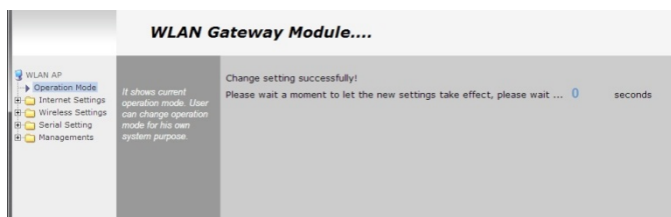

Рисунок 7.2 – Information window about successful setting change
- 5) If everything is done correctly there will be a window as it is shown in figure 7.2. Wait till the countdown finishes.